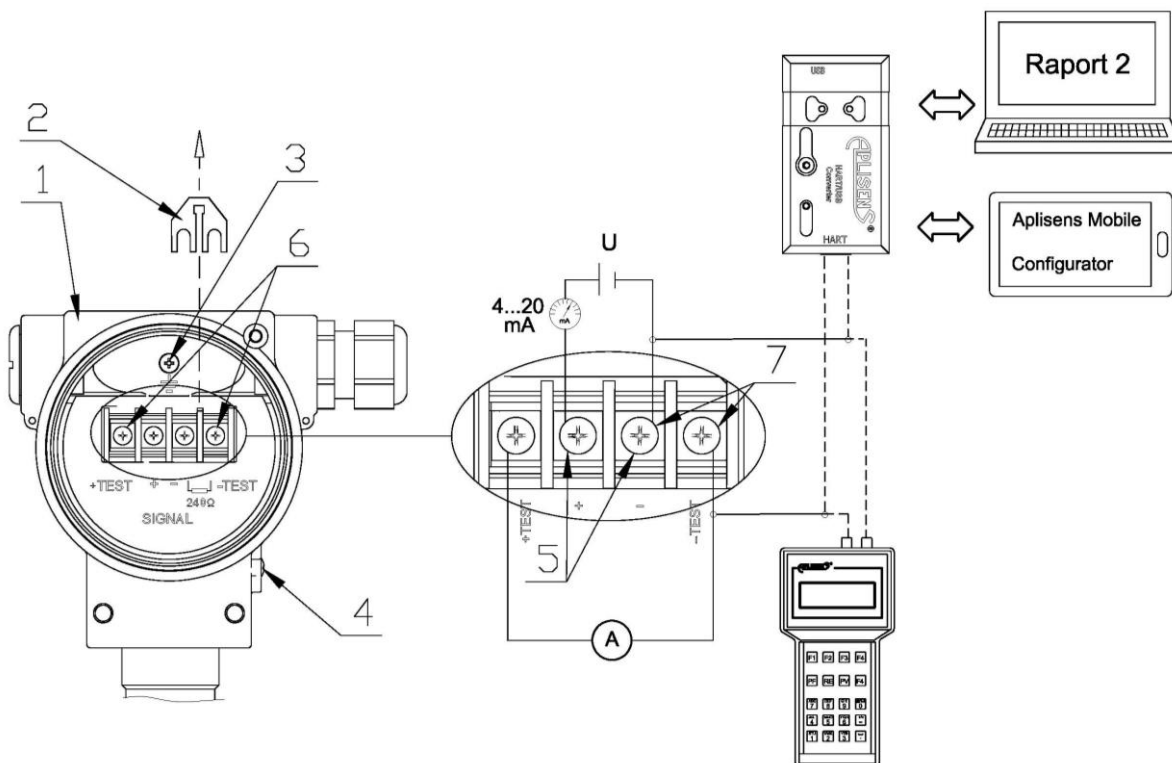

Figure 29. Electrical connection 4...20 mA of HART to transmitter in standard version.
- remove HART communication jumper ②;
- after completing the communication, install the HART communication jumper ② on the correct position according to (→ Figure 29);